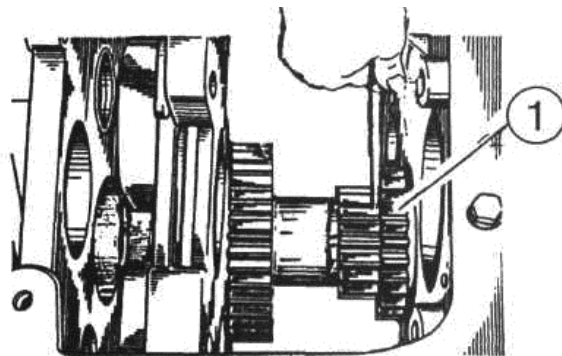

Figure 4.89
b) press off gear 1 (Figure 4.89) as an assembly with bearings and bushing;